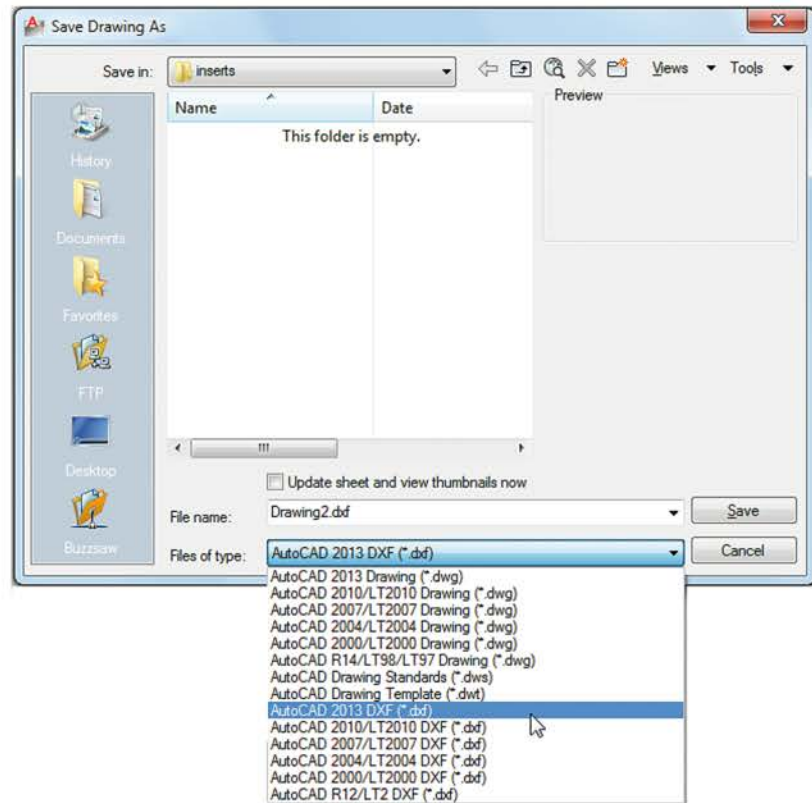

Fig. 14.7 The Save Drawing As dialog set to save drawings in DXF format
3. Enter a suitable file name. In this example, this is **Fig06.dxf**. The extension **.dxf** is automatically included when the **Save** button of the dialog is *clicked* (Fig. 14.7).